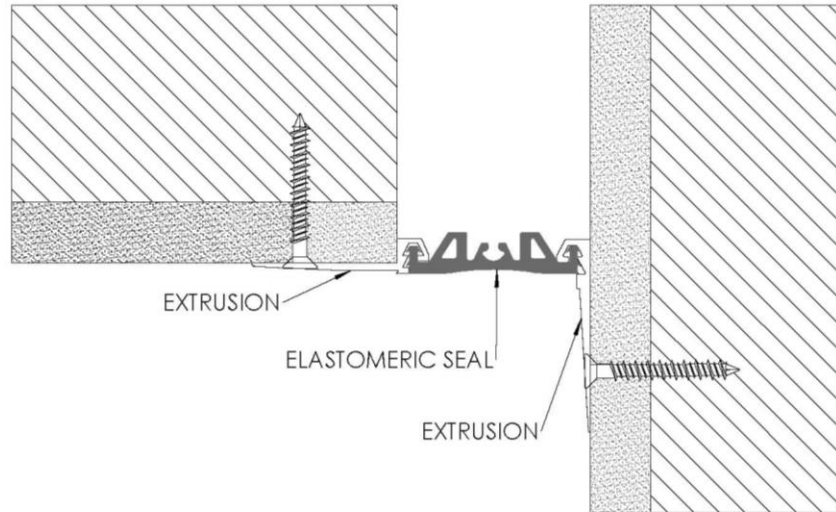

FIGURE 5
2. Position the elastomeric seal into position and push the seals bulbs into the extrusion channels as shown. Make sure the bulbs are seated all the way into the channel (stagger seams, as necessary). **See Figure 5**